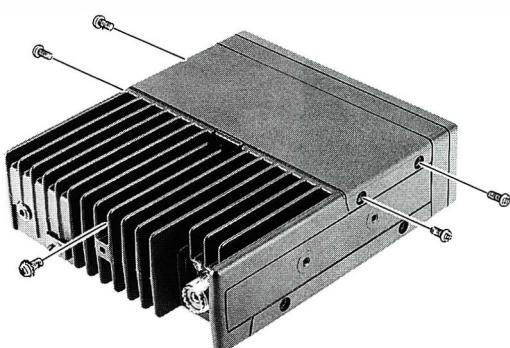

Figure 1
- Disconnect the DC power cable, and referring to Figure 1, remove the four screws affixing the top cover (two on either side), and loosen the one on top from the back by several turns. Lift the rear edge of the cover slightly, then remove it.
- Disconnect the DC power cable, and referring to Figure 1 on the previous page, remove the four screws affixing the top cover (two on either side), and loosen the one on top from the back by several turns. Lift the rear edge of the cover slightly, then remove it.